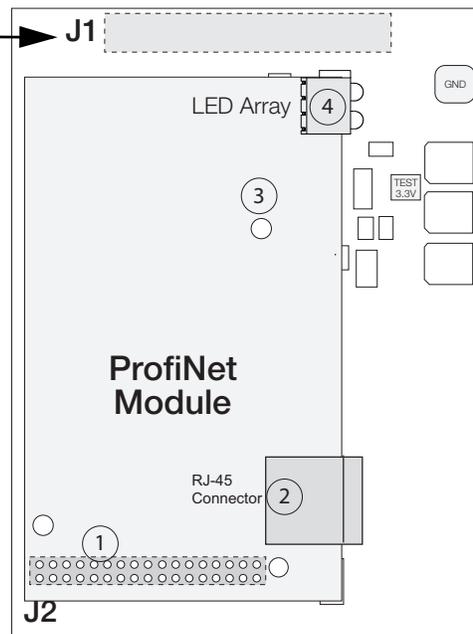

Figure 2-3. Fieldbus Card and PROFINET Module
9. Connect network cables to connector on the PROFINET module (Figure 2-3).